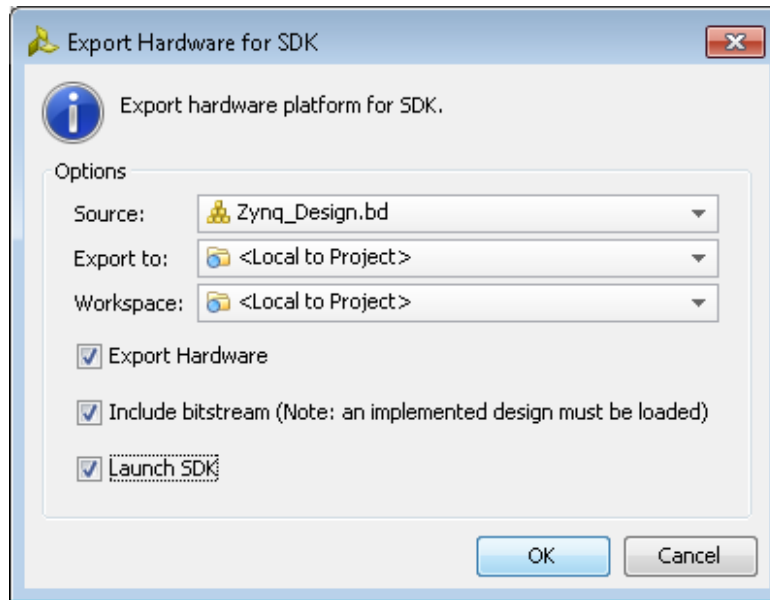

Figure 237: Export to SDK Dialog Window
2. In the Export Hardware for SDK dialog box (Figure 237), ensure that the **Include Bitstream** and **Launch SDK** options are enabled and click **OK**.